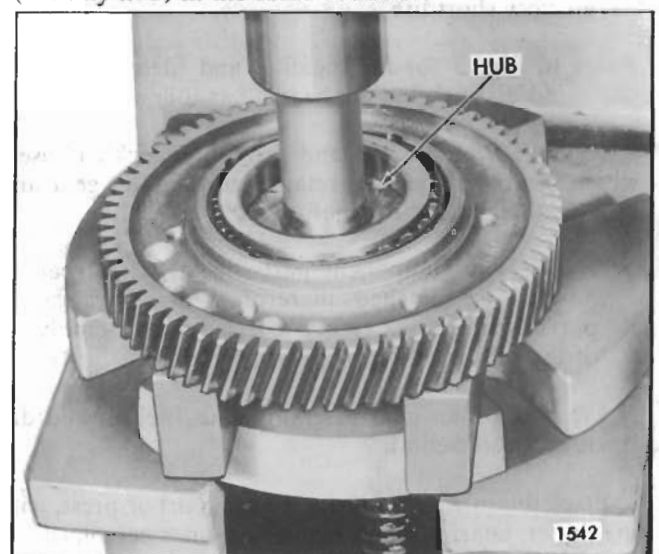

Fig. 2 - Pressing Hub Out of Idler Gear Bearing
3. Place the idler gear assembly in an arbor press, with the inner bearing cone supported on steel blocks as shown in Fig. 2. While rotating the idler gear assembly, press the hub out of the bearing. Remove the gear assembly from the arbor press and remove